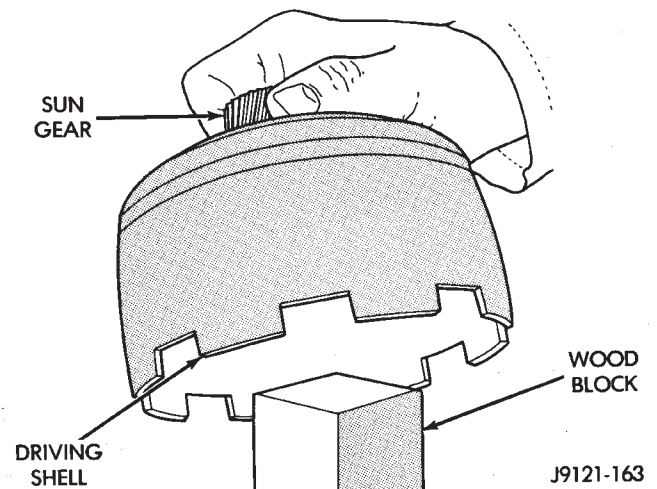

Fig. 182 Supporting Sun Gear On Wood Block
(10) Position wood block on bench and support sun gear on block (Fig. 182). This makes it easier to align and install sun gear lock ring. Keep wood block handy as it will also be used for geartrain end play check.